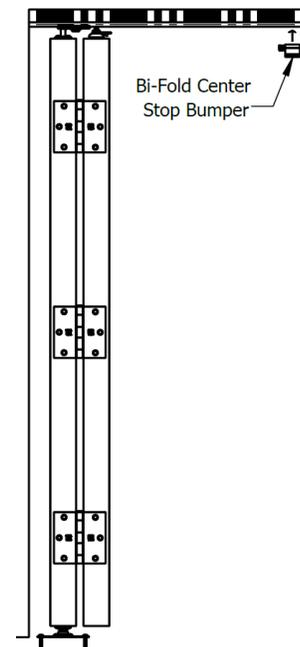

Figure 10
- Attach the Bi-Fold Center Stop Bumper as seen on Figure 10